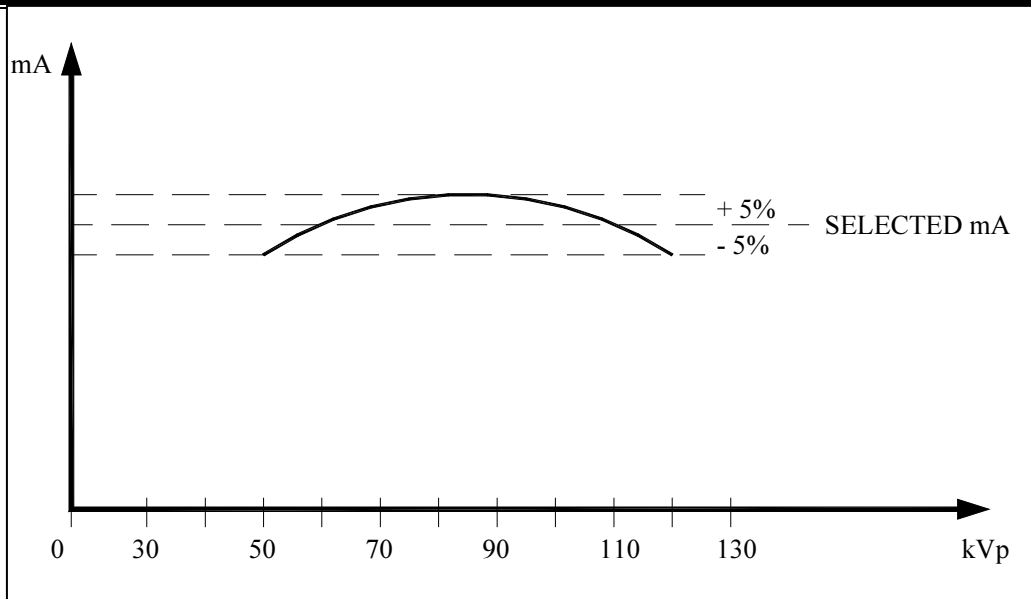

Figure 16 – mA Tracking Example
Normal mA tracking will result in mA values slightly high at 80 kVp and mA values roughly equal to one another but slightly low at the each end of the kVp range (50 and 125 kVp). See Figure 16 below for a visual representation of this effect.
6. If the mA at 120 kVp is higher than the mA at 50 kVp, move the SM band of RSCC upward. If lower, move the band downward. Achieve relative balance per Figure 16 above. The unit is capable, by fine tuning, to track within $\pm 5\%$ of selected value.
7. Repeat steps (3) through (6) until no further adjustments are necessary.